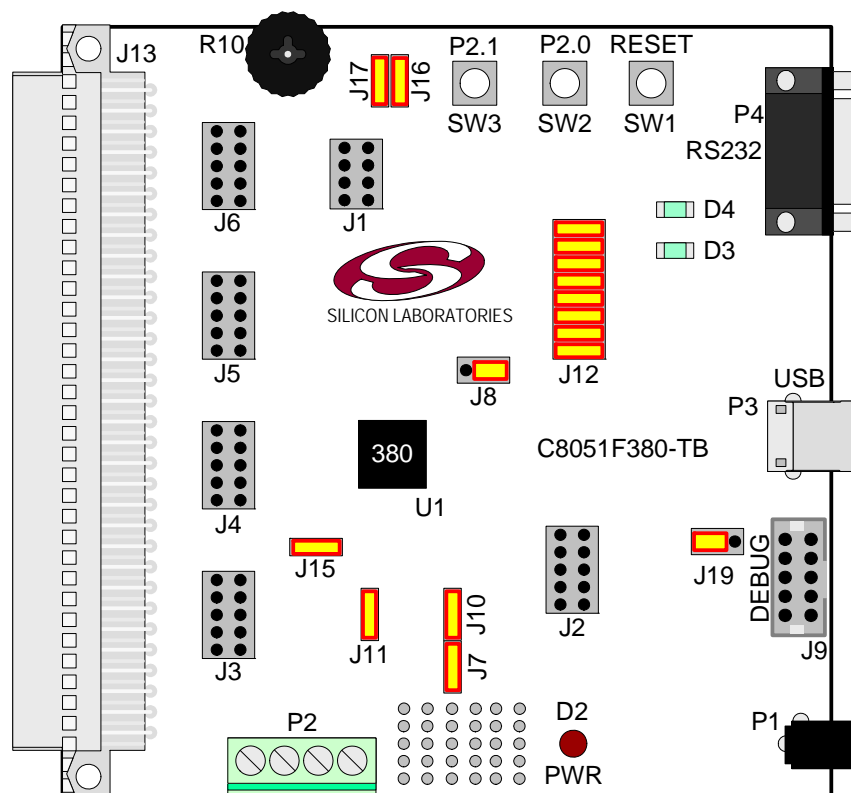

Figure 2. C8051F380 Target Board
1. Connect the USB cable between the host computer and the C8051F380 target board, as shown in Figure 2. See Figure 2 on page 6 for the location of the USB connector.
5. See Figure 2 on page 6 for the location of headers, LEDs, switches, and potentiometer.
The C8051F38x Development Kit includes a target board with a C8051F380 device pre-installed for evaluation and preliminary software development. Numerous input/output (I/O) connections are provided to facilitate prototyping using the target board. Refer to Figure 2 for the locations of the various I/O connectors.